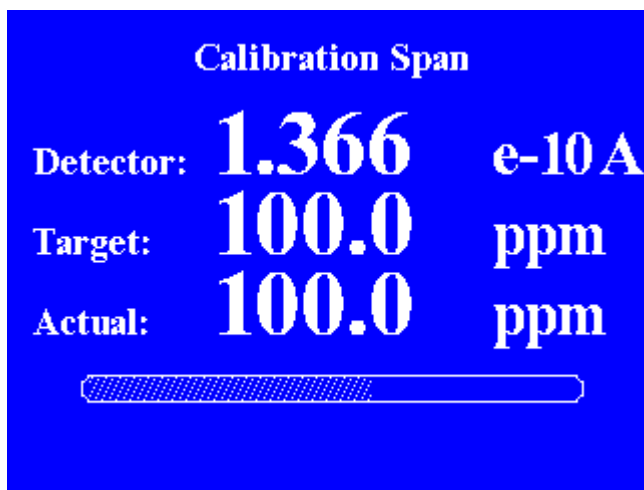

Figure 4-11. Auto Calibration Span Screen
3. The Calibration Zero screen will remain open for the length of the dwell time. At the end of the dwell time the zero point will be saved and the actual concentration value will automatically be adjusted. After the Zero point has been saved, Span gas is directed to the detector and the Calibration Span screen will open as shown in Figure 4-11.